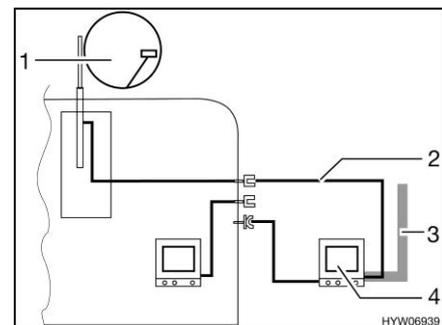

Fig. 200 TV in the awning
- TV inside the awning (Fig. 200,4): Connection to roof antenna (Fig. 200,1) with connection cable (Fig. 200,2)
- TV inside the awning (Fig. 200,4): Connection to external antenna (Fig. 200,3)